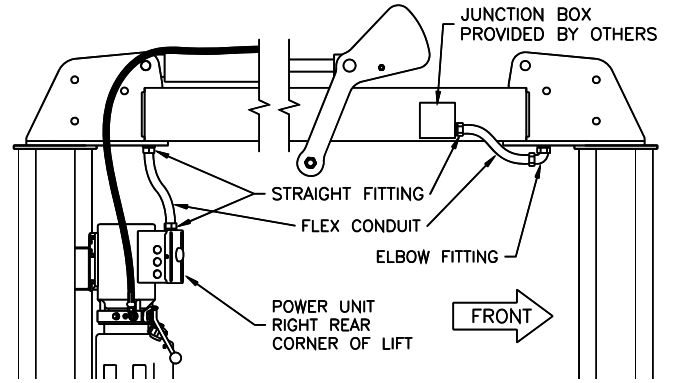

Fig 14 – Conduit Routing
24) * Install flexible conduit assemblies to bottom side of both ends of cylinder beam. There are two different assemblies supplied – one with two (2) straight fittings, and one with a straight and an elbow fitting. Install the assembly with two (2) straight fittings at the power unit, and the assembly with the elbow fitting at the front of the cylinder beam, see **Fig 14**.
Note: Electrical drop should attach to the flexible conduit at the front end of the cylinder beam, **Fig 14**. **This connection must be made on the outside of the lift** (right side of the cylinder beam) to avoid interference with the catwalk rails.